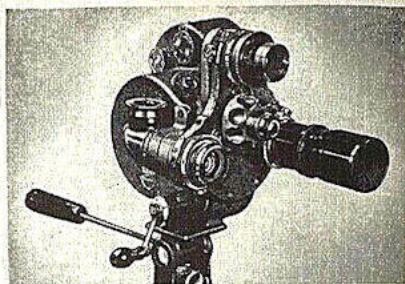

Figure 20
- (1) An offset, three-arm lens turret (Figures 20 and 21).